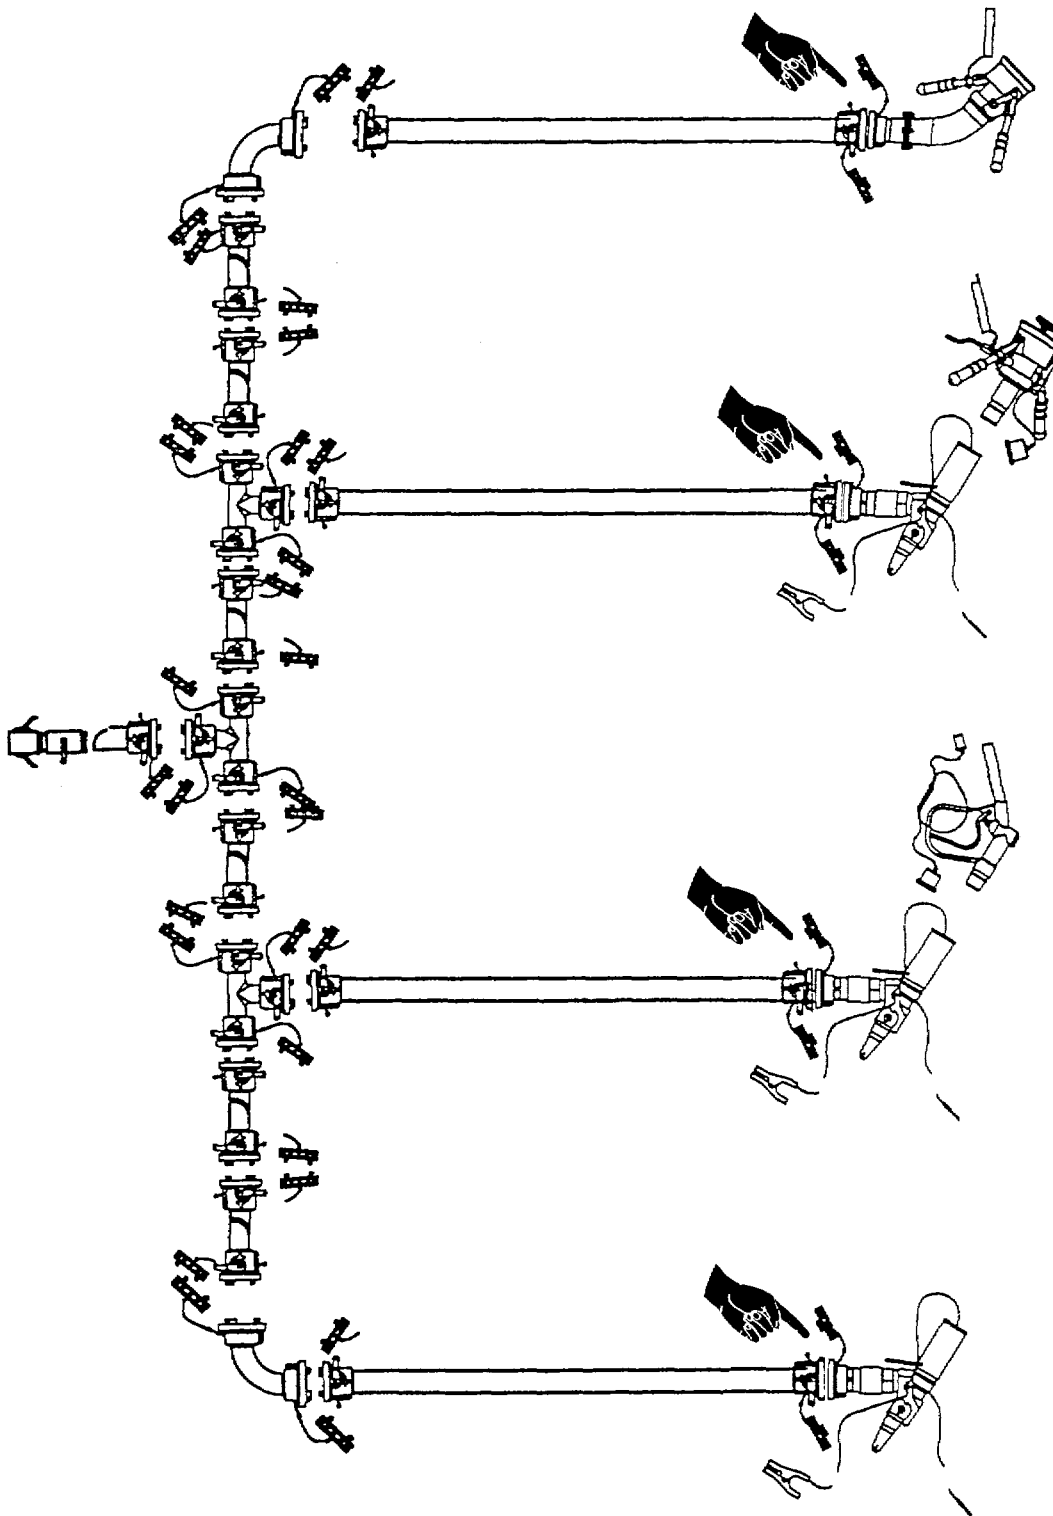

Figure 2-16. Fuel System Control Valves.
- f. Fuel System Diagram. Refer to figure 2-16. Fuel is supplied to the HTARS by the HEMTT tanker. The tanker pumps fuel through the hoses to the fuel nozzles. Fuel distribution is controlled by valved couplings installed on the 2-inch fuel hoses and tees and a ball valve installed in the 3-inch fuel hose.